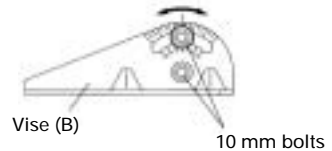

Fig. 5
(1) The machine permits cutting at angles of 45° or 60°.
(2) Loosen the two M10 hexagon socket head bolts on the vice (B), then set the working surface on the vice-jaw at any angles of 0°, 30°, or 45° as shown in Fig. 5. Upon completion of setting, securely tighten the two M10 hexagon socket head bolts.